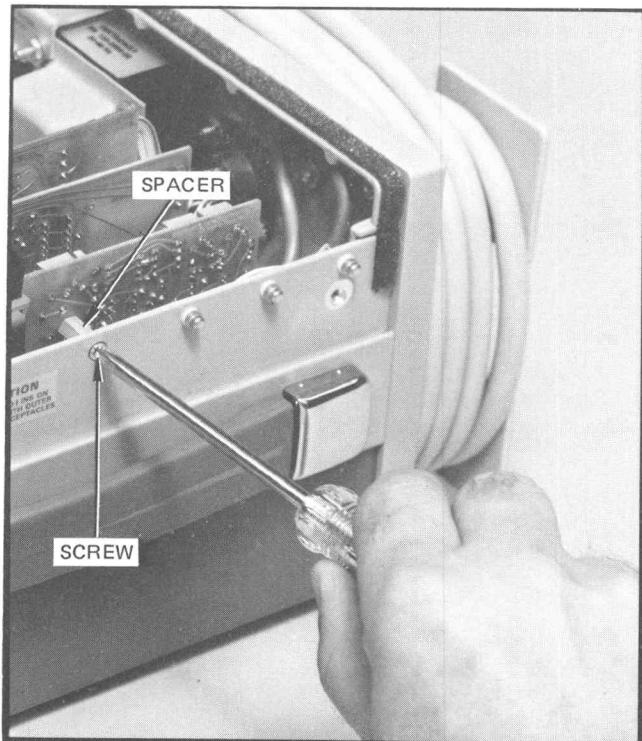

Fig. 5-11. ECG Board securing.
5. CHECK—The screw and spacer securing the ECG circuit board are tight. See Fig. 5-11.